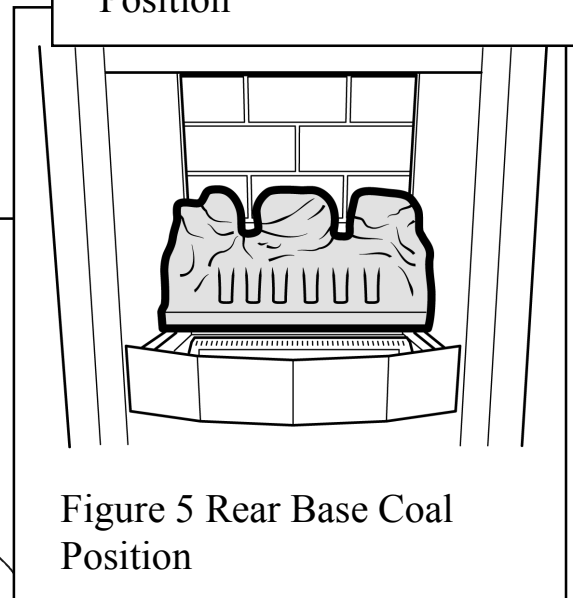

Figure 5 Rear Base Coal Position
2. Place the rear base coal in the firebox. It should rest on the ledges at the sides and back of the firebox and its rear face should touch the rear ceramic wall. See figure 5.